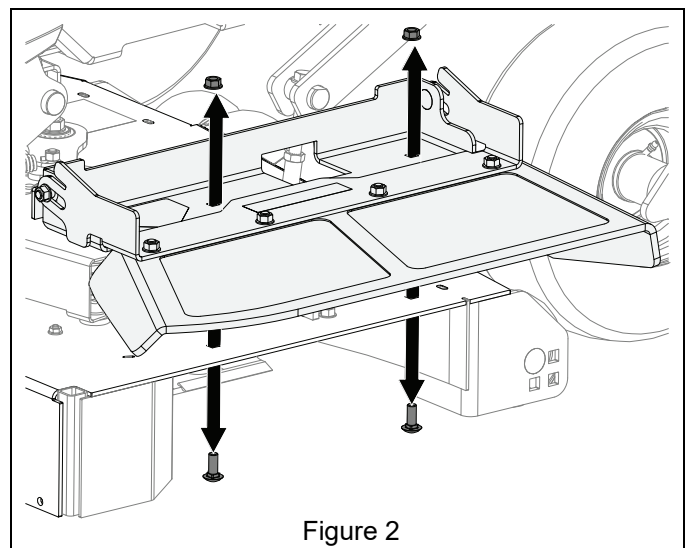

Figure 2
3. Remove hardware securing discharge chute assembly and remove chute assembly. Retain hardware for installation and discharge chute for use without operator-controlled chute kit. See Figure 2.